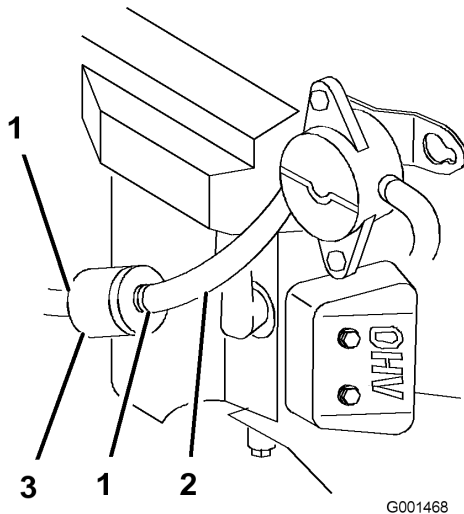

Figure 38
5. Close the fuel shutoff valve (Figure 38).
6. Squeeze the ends of the hose clamps together and slide them away from the filter (Figure 38).
8. Install a new filter and move the hose clamps close to the filter (Figure 38).
3. Close the fuel shutoff valve (Figure 38).
4. Loosen the hose clamp at the fuel filter and slide it up the fuel line away from the fuel filter (Figure 38).
5. Disconnect the fuel line from the fuel filter (Figure 38).
Note: Allow gasoline to drain into a fuel container can or drain pan (Figure 38).
7. Install the fuel line onto the fuel filter. Slide the hose clamp close to the fuel filter to secure the fuel line (Figure 38).